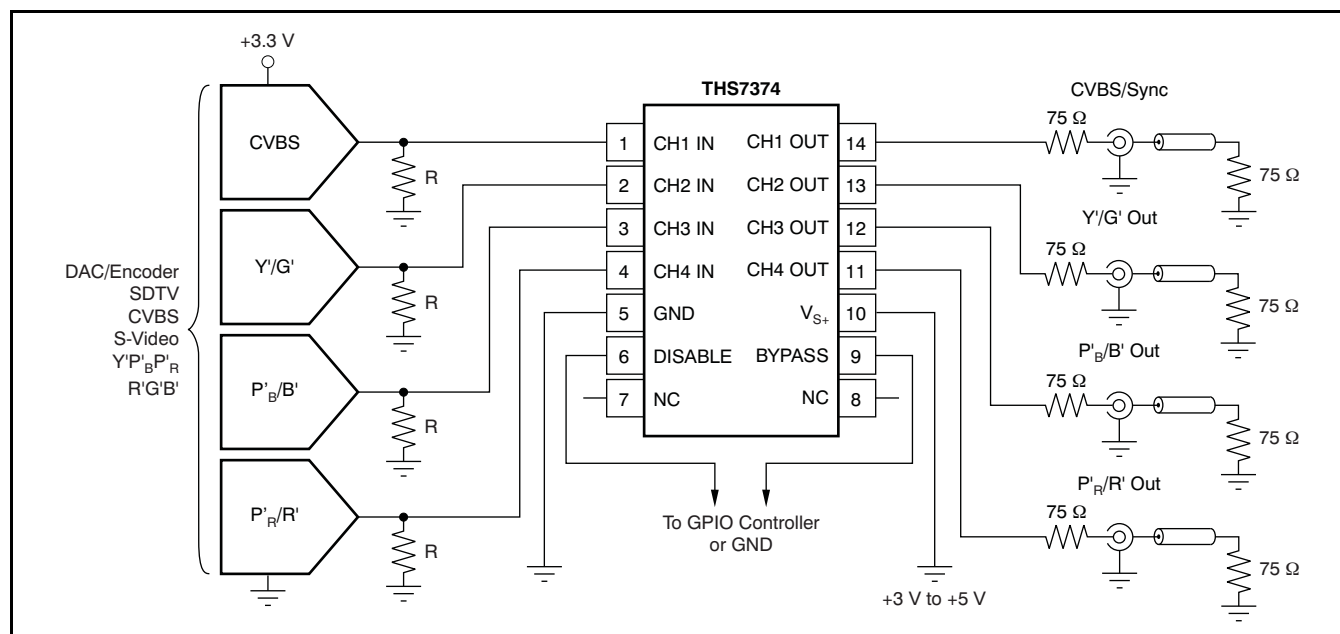

Figure 57. Typical SDTV CVBS/ $Y'P'_BP'_R$ Inputs from DC-Coupled Encoder/DAC with DC-Coupled Line Driving
A typical application circuit that uses the THS7374 as a video buffer is shown in Figure 57. It shows a DAC or encoder driving the input channels of the THS7374. One channel is a composite video (CVBS) channel of a standard definition (SD) video system. The other channels are the component video $Y'P'_BP'_R$ (sometimes labeled $Y'U'V'$ or incorrectly labeled $Y'C'_B'C'_R$) signals of a 480i or 576i system. These channels could easily be the s-video Y'/C' channels or the $R'G'B'$ channels of a SCART system.